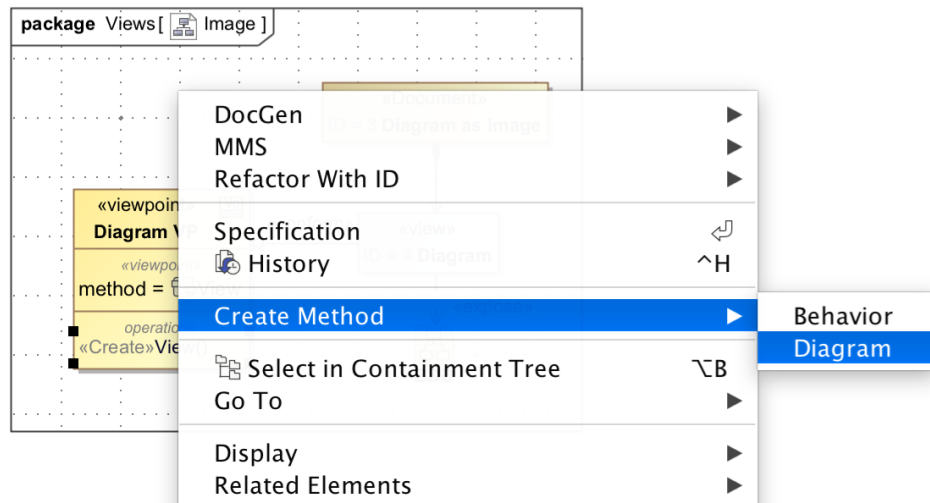

Fig. 1.15: Usage of right-click menu to add a Viewpoint Method.
- Right click the “operations” section of the Viewpoint > Create Method > Diagram > “Viewpoint Method Diagram” under the MDK section (see Fig. 1.15)